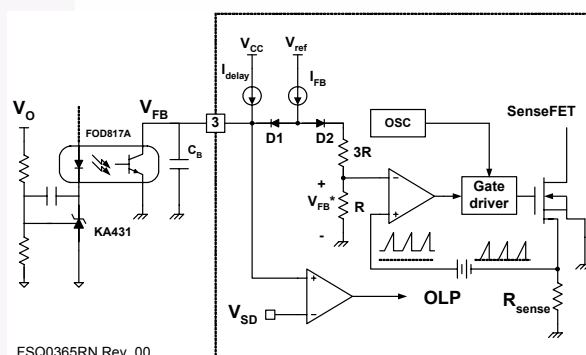

### Figure 20. Start-up Circuit
**1. Startup:** At startup, an internal high-voltage current source supplies the internal bias and charges the external capacitor ( $C_a$ ) connected to the VCC pin, as illustrated in Figure 20. When VCC reaches 12V, the FPS begins switching and the internal high-voltage current source is disabled. The FPS continues its normal switching operation and the power is supplied from the auxiliary transformer winding unless VCC goes below the stop voltage of 8V.